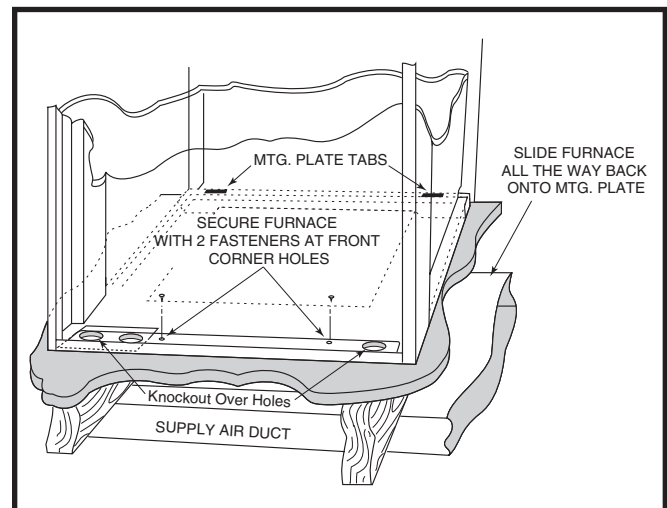
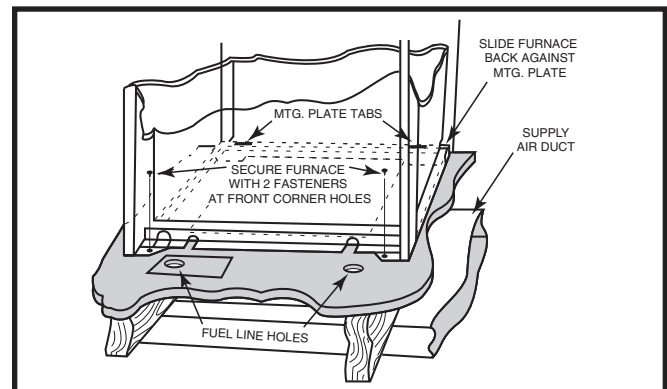

Figure 14. "A" & "B" Cabinet Furnaces
Figure 15. "A" Cabinet Furnace on Coil Cabinet
Sides and back of the furnace may be enclosed by wall framing such as in a closet or alcove. The dimensions of the room or alcove must be able to accommodate the overall size of the furnace shown in Figure 4 \(page 6\) and the installation clearances outlined on page 6. The furnace shall be appropriately connected to the supply distribution system as shown in Figure 14 \(page 9\) & Figure 15 \(page 9\).
4. Secure front with one (1) fastener at each corner. See Figure 14 & Figure 15.